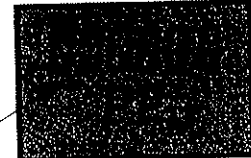

Fig. 6. Calibration display
Enter the known calibration into the speedometer. Press and release the reset button to increment the current digit selected. To select another digit press and hold the button for two (2) seconds and the next digit to the right will start to flash (see Figure 6). Once you have finished adjusting the last digit, press and hold the button for two (2) seconds. The speedometer will store the new calibration and exit calibration mode.